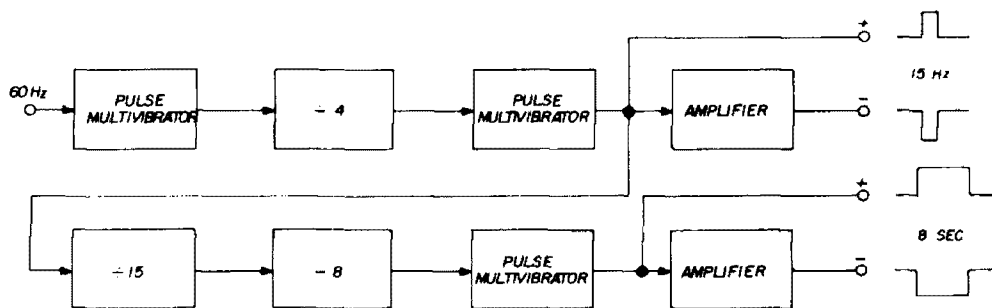
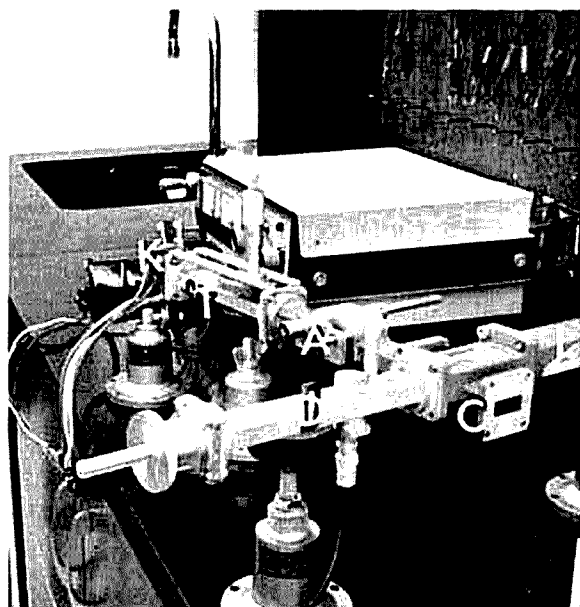

fig. 1. Block diagram showing counting sequences to obtain sstv horizontal and vertical scanning pulses.
fig. 2. Experimental X-band microwave string.
The block diagram of fig. 1 shows three basic counting sequences in the sync generator. The reference frequency, 60 Hz, is divided or counted by 4. As explained previously, this process will require two flip-flops; i. e., $2^2 = 4$. This circuit provides one output pulse for four input pulses, or an output frequency of 15 Hz. The next counter is a basic "divide by 16" counter that has been modified by gates to count by 15. Two gates (one IC package) are parallel-connected to sense the output of each J-K flip-flop and reset on the 15th input pulse. Thus the output is 1 Hz. The final counting sequence is provided by a "divide by 8" counter. Since $2^3 = 8$, three flip-flops and no gates are required. For every 8 pulses one output pulse results, or one output pulse every 8 seconds. This provides the sstv frame rate described above.
fig. 1. X-band waveguide components. From bottom to top are surplus 723 A/B klystron and holder, surplus resonant cavity, straight and bent sections of waveguides, UG-39/U waveguide flanges for do-it-yourself construction projects and waveguide-to-coax adaptor (next to flanges). The peculiar looking objects at the upper left are waveguide supports and were made by turning down the bakelite knobs salvaged from broken pressure regulators. The total value of the components if purchased outright would exceed \$1,000. From surplus, all were obtained for less than \$50.
Waveguides and related "plumbing" found most commonly are for X-band (9 GHz) applications (fig. 1). Fortunately some of the least expensive klystrons are also X-band generators. Accordingly, I shall limit my discussion to X-band components and methodology.
Fig. 2 shows a microwave string consisting of a Varian 998044 klystron (K), cooled by a small squirrel-cage fan (always force cool even the smallest klystron), homemade slide screw tuner (SST), surplus attenuator (A), surplus directional coupler (C), surplus absorptive
load (L) and a homemade tunable crystal detector (D). What you connect beyond the directional coupler will depend on what you want to study or illustrate. The assembly of fig. 2 is used for studying
Since the exposed metal envelope of the reflex klystron tube forms the anode, the tube is normally operated with the anode grounded and with the cathode and repeller operated below ground potential. For either the Varian klystron shown in fig. 2 (\$300, new) or the more common 723A/B (or 2K25) shown in fig. 1 (about \$30, new), you will need a